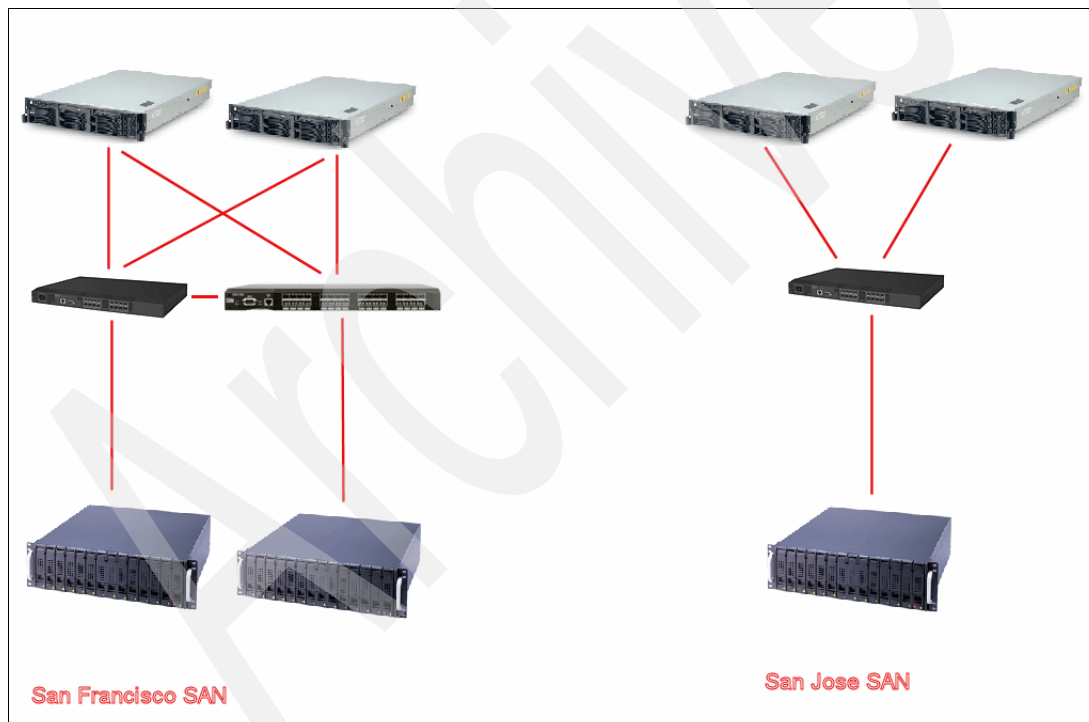

Figure 6-44 The starting configuration
We start with two independent SANs. The *San Francisco SAN* (SFO) contains two IBM x330 hosts, one 2005-H16 switch, and one 2005-B32 switch. The switches are connected by ISLs to form a single fabric. This fabric also has JBOD-connected disks. Some of these disks will be routed across to our other SAN. The second SAN is called the *San Jose SAN* (SJ), which also contains two IBM x330 hosts and a single 2005-H16 switch, and is connected to a JBOD disk (Figure 6-44).